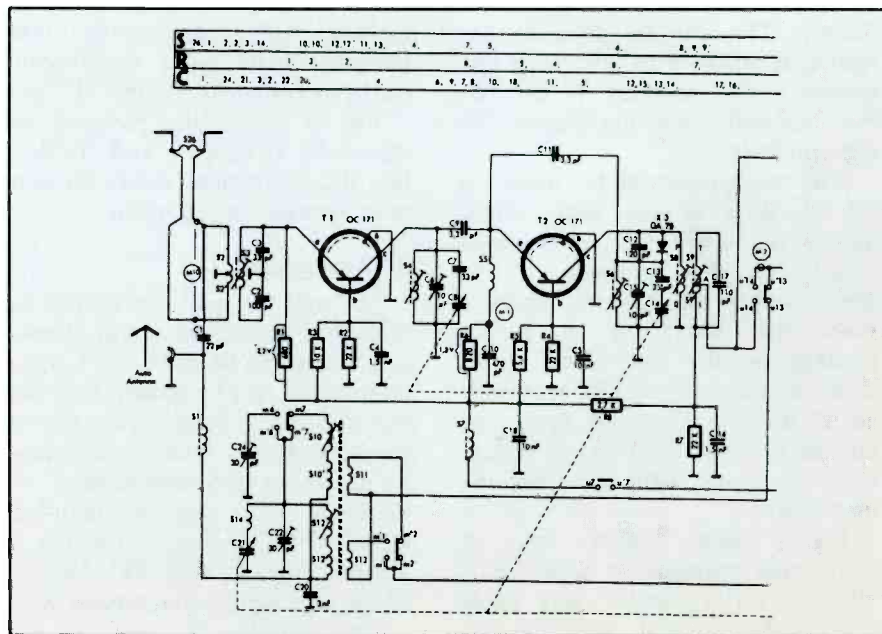

Fig. 2. Schematic as you see it with some imported AM-FM portable radios.
It goes without saying that you must know something about transistor circuits before you can specialize. Fig. 2 shows a partial schematic of a typical AM-FM transistor portable. The symbols are a bit unusual if you haven't seen them before (remember, many of these sets will be imports). Notice the resistor symbol—a box with the value in ohms printed inside. The ground symbol is different, too—a single bar across the end of a perpendicular line (the ordinary ground symbol with the two bottom lines removed). The strip across the top of the schematic gives the location of every coil (marked S), resistor (R), and capacitor (C) in the circuit. Test points are circles with M-numbers inside them.